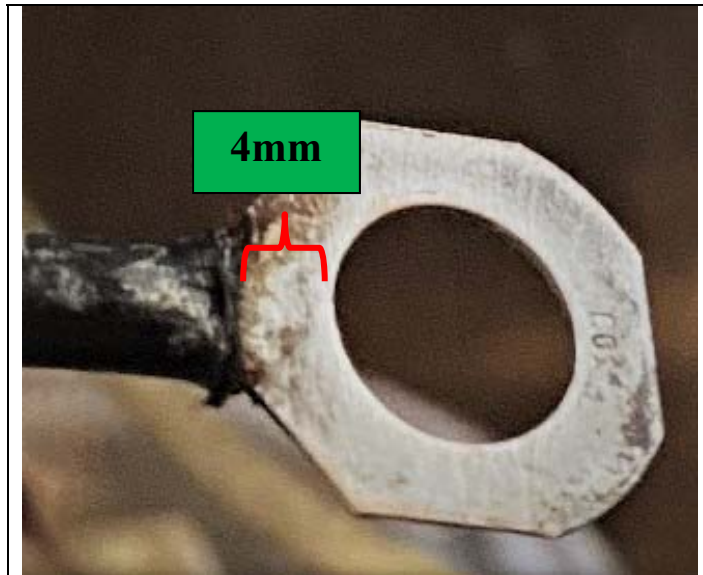
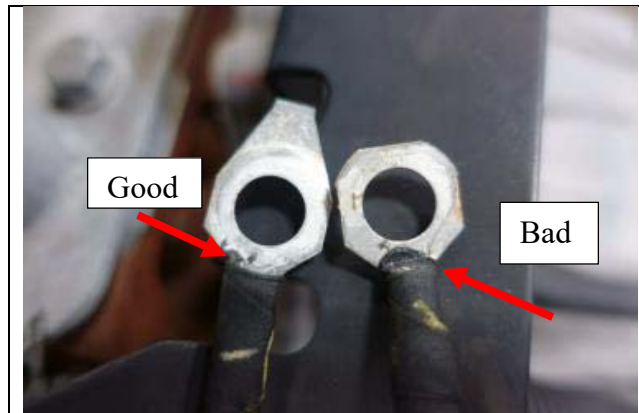

Figure 5
Figure 6
7. Inspect the E-97 and E-98 ground terminals for evidence of sealant or tape where each metal terminal makes contact with the engine block. Use a scale to measure that there is 4mm of clear metal clearance between the center of each terminal and where the tape begins. (See Figure 5.) Refer to Figure 6 for an example of interfering tape.
9. Reapply any butyl tape that was removed in Step 5 to terminals E-97 and E-98. Ensure that the tape does not encroach onto the 4mm area shown in Figure 5.